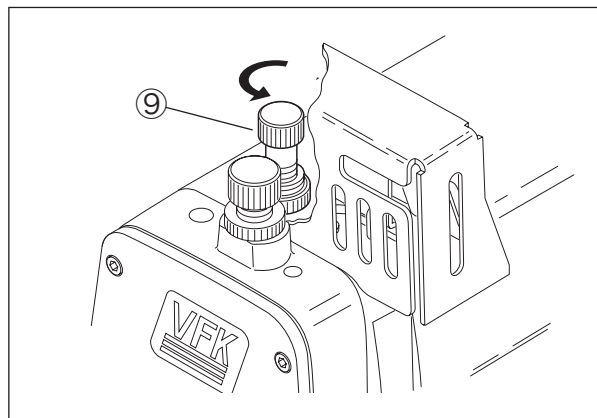

Fig. 6-43
- (9) Tighten the presser spring regulator ⑨ , and adjust the presser foot pressure. (Fig. 6-43)(Refer to “5.6 Pressure of presser foot” .)